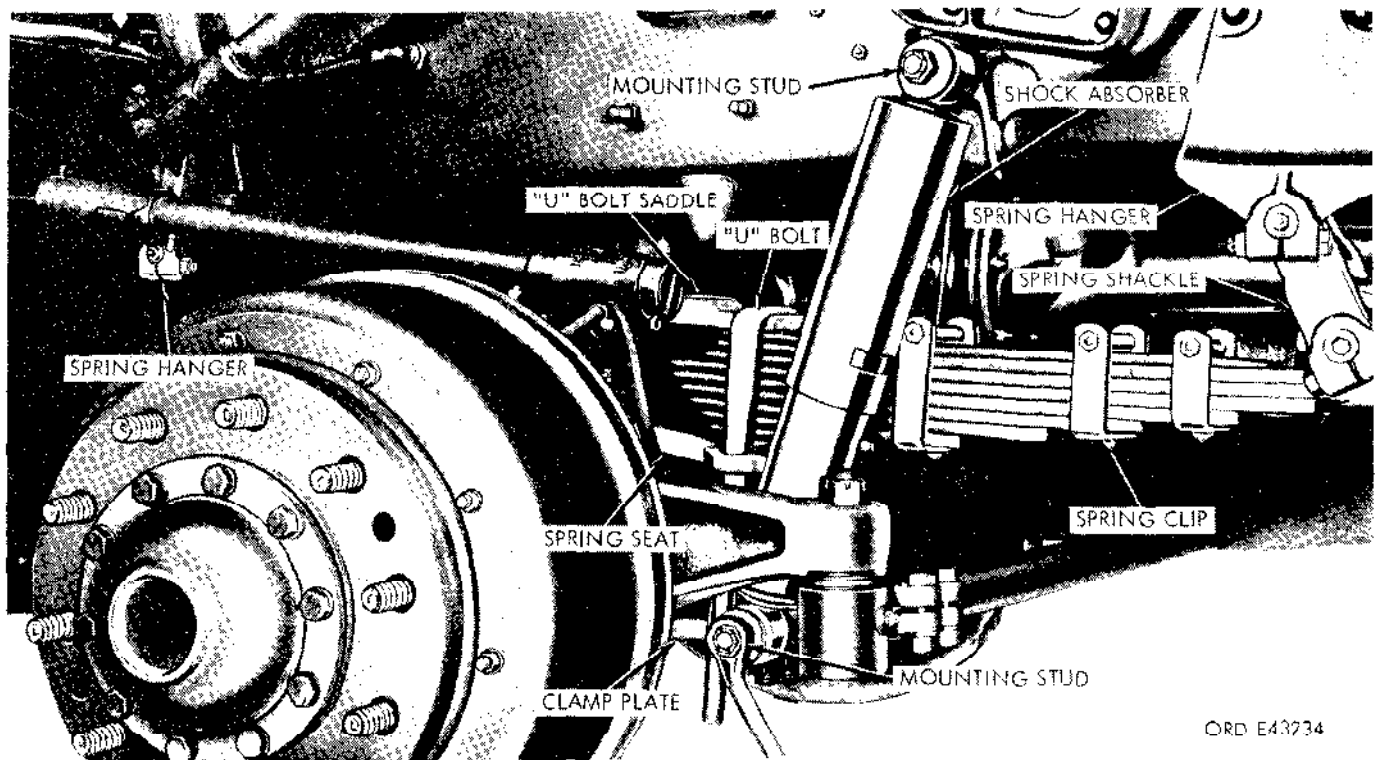

Figure 2-216. Left front spring and shock absorber.
a. *Front Spring.* Semielliptic, leaf type spring assemblies (fig. 2-216) are mounted to both sides of vehicle. Two U bolts and clamp plates secure the front springs to axle. The spring assemblies are mounted to a pivoting shackle at the rear spring
c. *Shock Absorbers.* Two nonadjustable, double-acting shock absorbers (fig. 2-216) are mounted to the front of the vehicle. The upper end is secured to the frame side rail by a mounting bracket. The lower end is secured to the spring clamp plate. Four rubber bushings (two to each eye) are installed in the upper and lower ends of the shock absorber.
(3) Remove the four nuts and lockwashers from the two U-bolts (fig. 2-216). Remove the U-bolts from the spring seat and spring saddle.
#### a. Removal (fig. 2-216).
#### b. Installation (fig. 2-216).